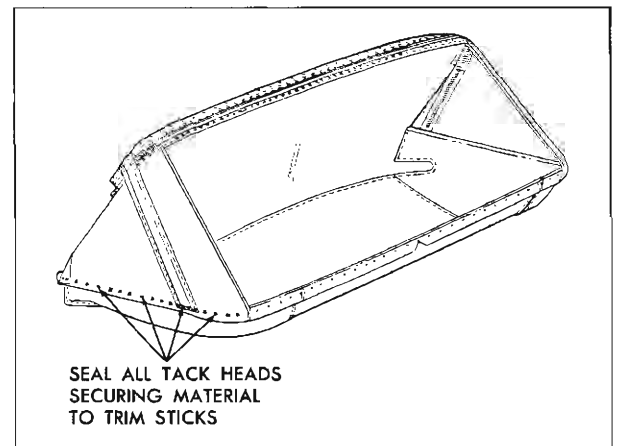

Fig. 21-47 Back Curtain Sealing
23. Apply convertible top sealer (nitrile) around each tack head used to secure back curtain material and webbing to rear and/or rear quarter trim sticks (Fig. 21-47).